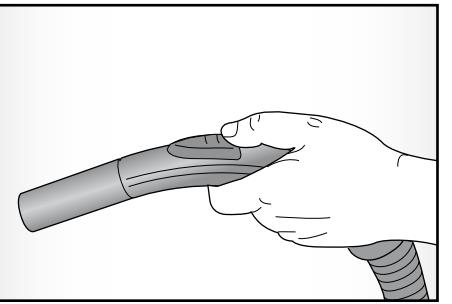

Fig. 4
The secondary air valve (I) is on the hand grip (L) and it is used to regulate suction power (FIG. 4).